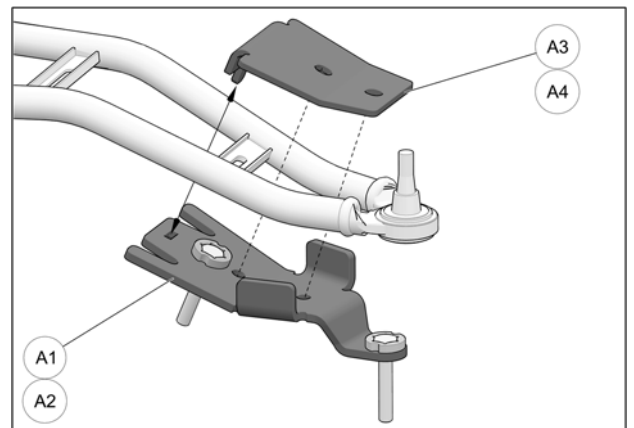

Fig. 17
6. Position bottom part of anchor bracket (A1-A2) assembly under front lower suspension arm, as shown in the figure below. Position bracket cover (A3-A4) over suspension arm and insert tenon at back of cover in mortise cut out of bottom part. See Fig. 17